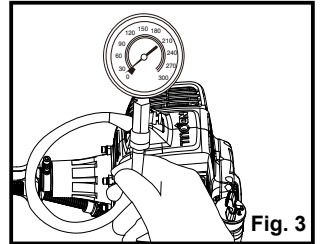

Fig. 3
- Rotate a compression gauge into the spark plug hole (Fig. 3). Place the choke lever in the RUN position. Engage the throttle safety and throttle trigger together to open the throttle and the choke lever in the on position. Lift the start button cover and press the start button 3-5 times until the gauge needle reaches its peak (stops moving). Engine compression should be  $>0.6\text{MPa}$ .